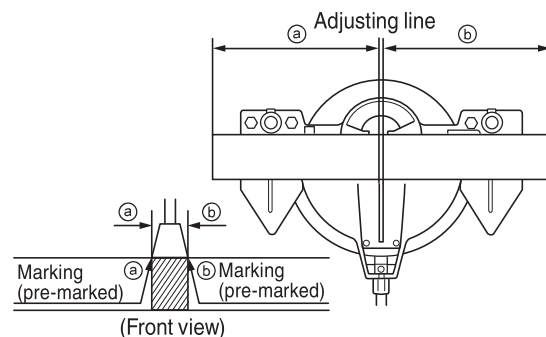

Fig. 15
- (1) As shown in Fig. 15 the width of the saw blade is the width of the cut. Therefore, slide the workpiece to the right (viewed from the operator's position) when length ⑥ is desired, or to the left when length ⑤ is desired. Turn the LED light, project the shadow of the blade onto the workpiece, align the left side or right side of shadow of the blade with the ink line on the workpiece.
- (2) Once the saw blade reaches maximum speed, push the handle down carefully until the saw blade approaches the workpiece.
- (3) Once the saw blade contacts the workpiece, push the handle down gradually to cut into the workpiece.
- (4) After cutting the workpiece to the desired depth, turn the power tool OFF and let the saw blade stop completely before raising the handle from the workpiece to return it to the full retract position.